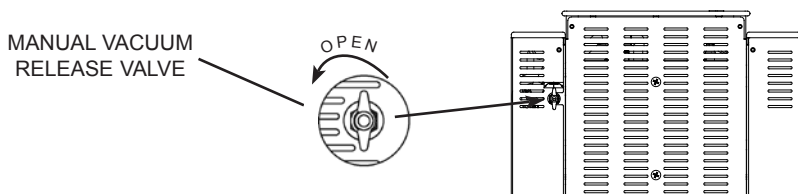

Figure 7. VIP Universal Furnace Vacuum Release Valve
- a. Turn knob on the back of the VIP Furnace one-half turn in a counterclockwise direction to release vacuum. (Be sure to close this knob **TIGHTLY** after vacuum is released.) See Fig 7.